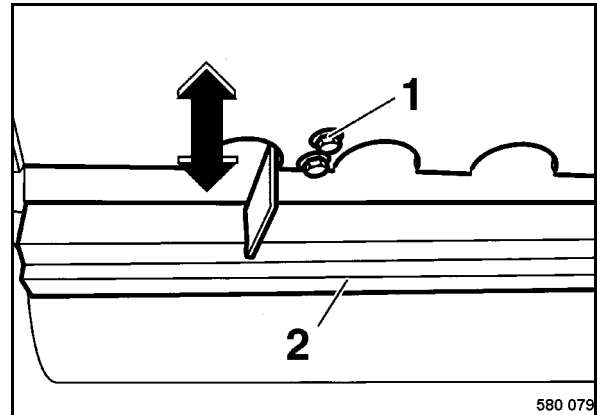

Fig. 160
- To adjust the scrapers 1 (Fig. 160) loosen the fastening screws (2) in the slots and push the scraper bracket towards the drum until the scraper touches.